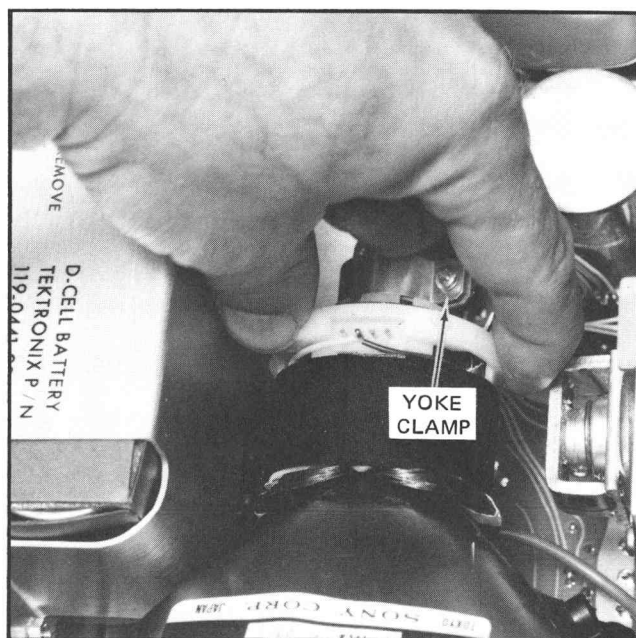

Fig. 5-4. Deflection Yoke adjustment.
- Loosen yoke clamp (Fig. 5-4).
- ROTATE—Yoke for non-tilted trace (Fig. 5-4).